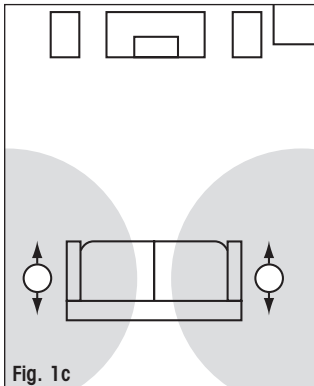

Fig. 1c
5.1 Surround Placement Using Two Speakers (Fig. 1c)